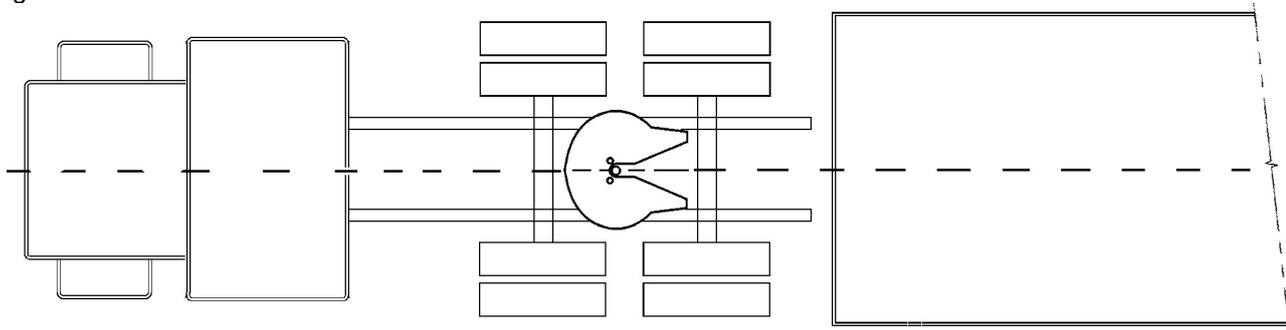

Figure 3-1 Align Truck With Trailer For Coupling
2. Place the truck directly in front of the trailer in a straight line. See figure 3-1. **NEVER** back under the trailer at an angle.